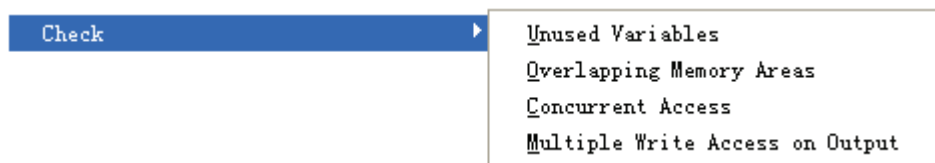

Figure 2-3-9 Check Sub-menu
- Project [P]/Check: View the information about variables, shown in figure 2-3-9. See section 8.2.3 for details.